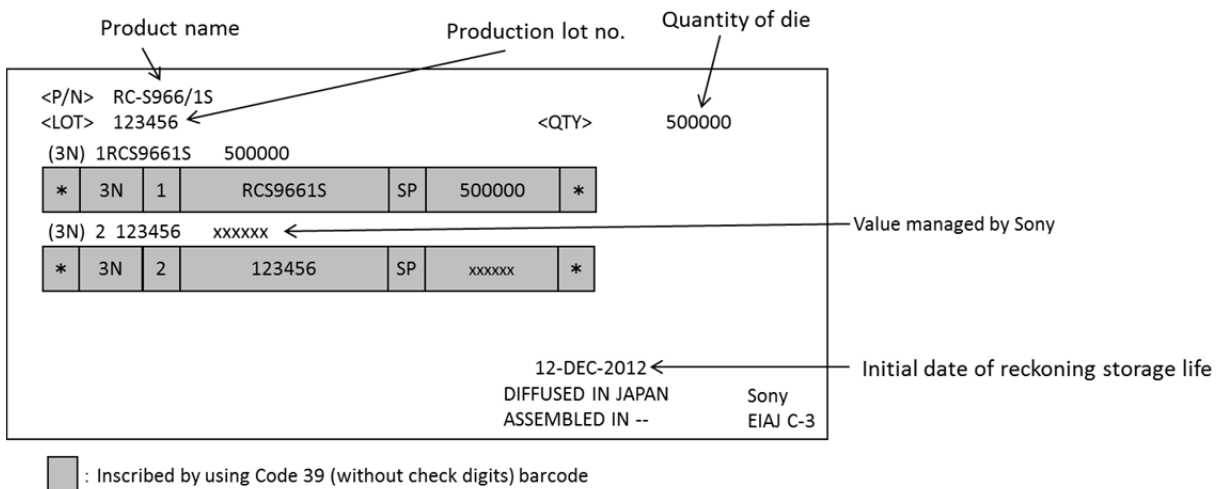

Figure 7-12: EIAJ C-3 label (example)
- 4) EIAJ C-3 label (See Figure 7-12) is attached to the top surface of the sealed bag.
- 3) EIAJ C-3 label (See Figure 7-12) is attached to the side of the outer carton package.